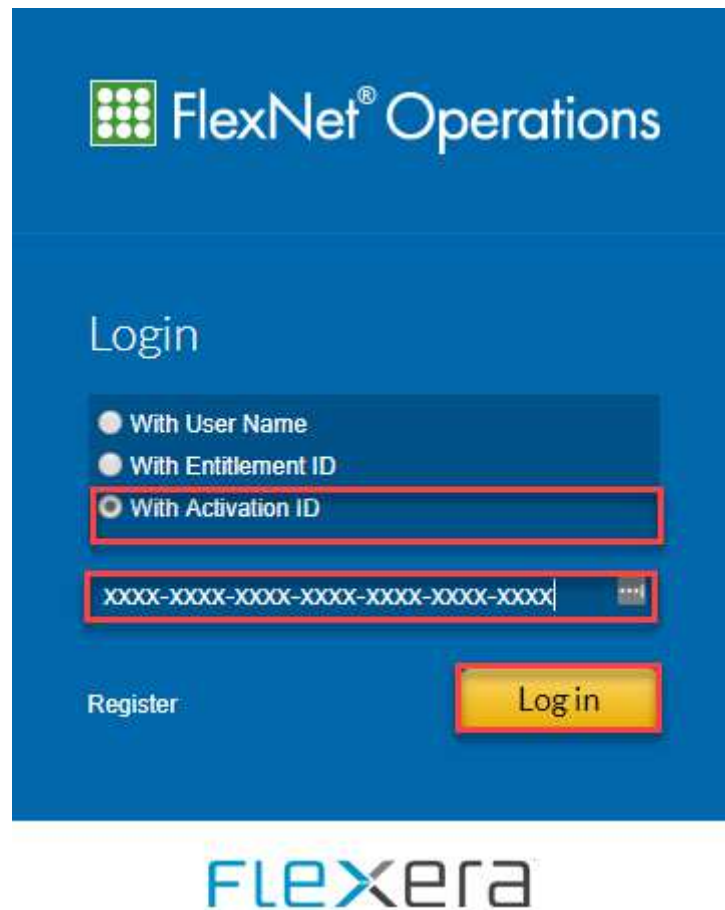

Figure 8 - FlexNet Operations screen, select login with Activation ID, and enter your 32 character licence as shown
14. If the log in process is successful, this will open the License and Delivery Portal (Figure 8).